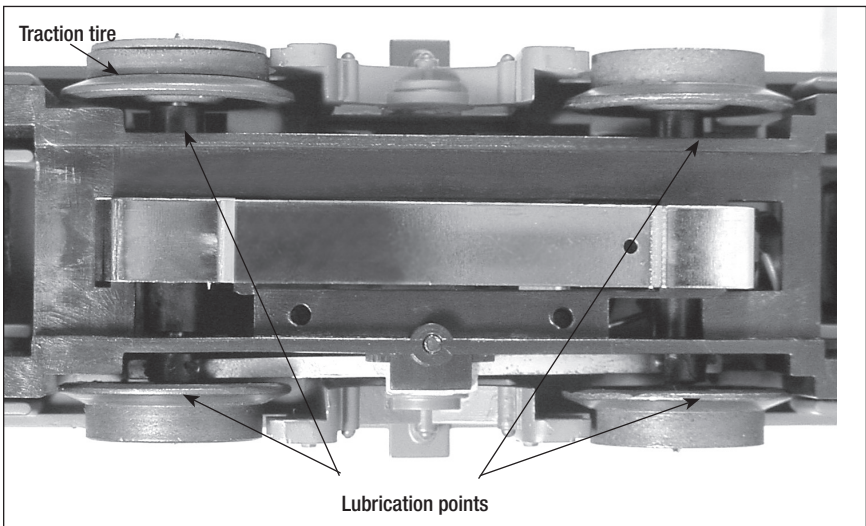

Figure 2. Lubrication points
After 10 to 12 hours of operation, the axles will require a drop of Lionel oil or other light machine oil. Simply add a drop of oil to the axles at the points between the frame and the wheels. These locations are shown in Figure 2. Do not lubricate excessively.
**Y**our Handcar is equipped with one rubber traction tire to help the unit grip the track. Refer to Figure 2 for the location of the traction tire. If you find that the traction tire on your handcar becomes worn, you may replace it with Lionel part no. 600-0065-043, available at your authorized Lionel dealer.